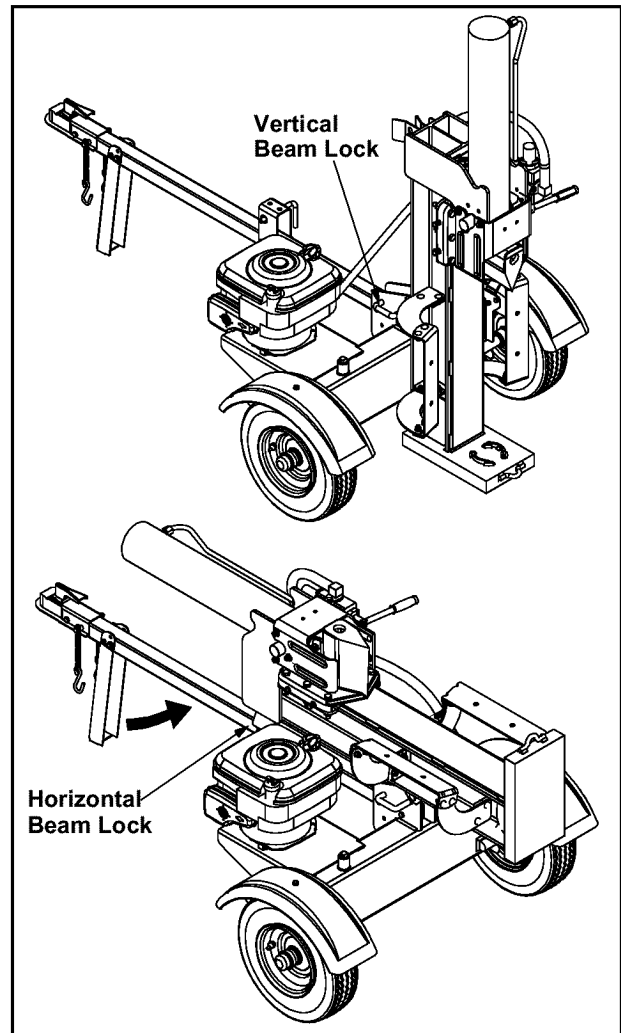

Figure 8
- To lock the beam in the vertical position, pull out on the vertical beam lock and pivot it to secure the beam. See Figure 8.
- To lock the beam in the horizontal position, pull out on the horizontal beam lock and pivot it to secure the beam. See Figure 8.
- Remove the spring clip and clevis pin from jack stand. Support the tongue and pivot the jack stand up against the tongue. Secure with the spring clip and clevis pin previously removed. See Figure 8.